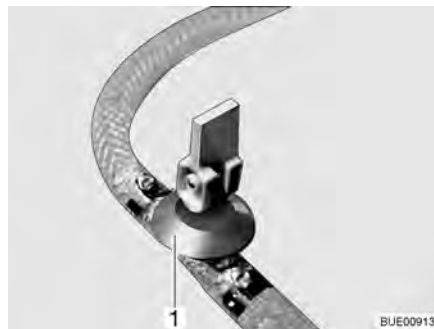

Fig. 135 Drain cock
- Close the drain cock(s). Position the rocking lever (Fig. 135,1) horizontally.
- Open drain cock(s) (Fig. 135). To do so, set the rocking lever (Fig. 135,1) in a vertical position. The boiler is drained to the outside.